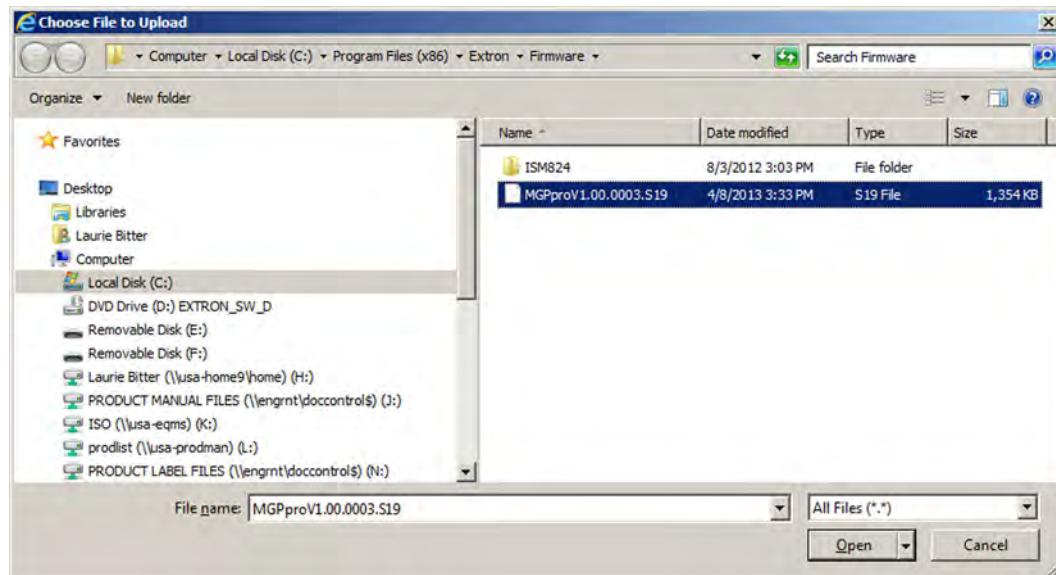

Figure 35. Choose File to Upload Window
3. Click **Browse** to open the Choose File to Upload (or Choose File) window (see figure 35 on the next page) and locate the firmware file on your computer or server. The file extension must be **.S19**.